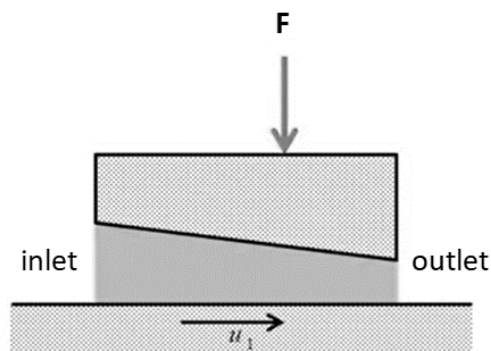

Figure 3: Oil wedge formed in hydrodynamic lubrication
- (b) Figure 3 shows the oil wedge formed between moving two non-parallel surfaces during hydrodynamic lubrication.